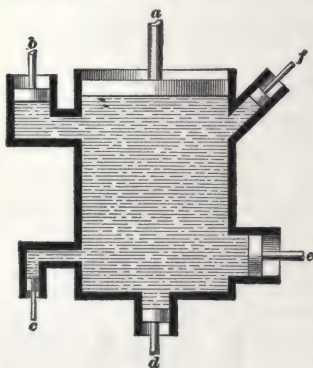

FIG. 2.
4. The foregoing fact may be easily proved experimentally by means of an apparatus like that shown in Fig. 2.
**EXAMPLE.**—If the area of the piston *e*, in Fig. 2, were 8.25 square inches and a force of 150 pounds were applied to it, what forces would have to be applied to the other pistons to keep the water in equilibrium, assuming that their areas were the same as given before?